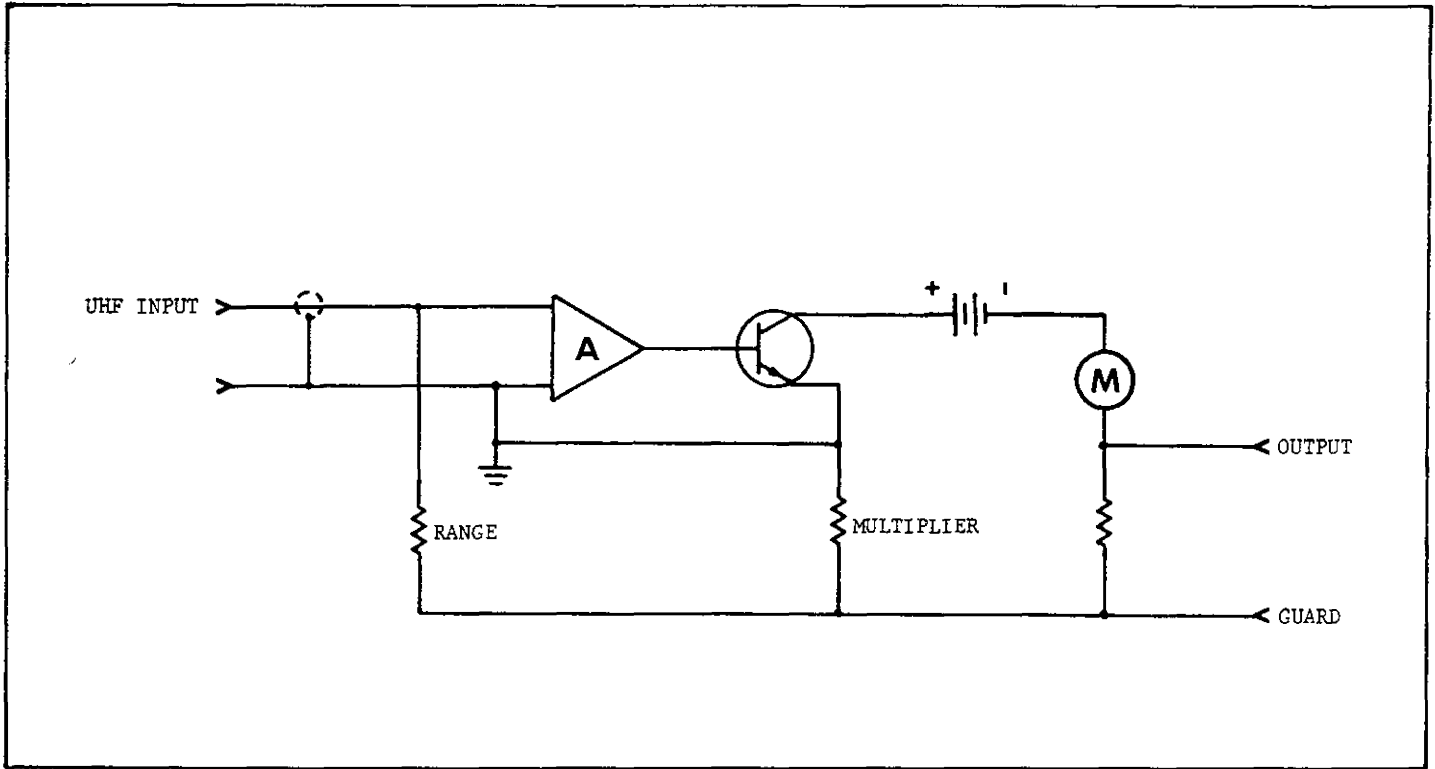

FIGURE 11. Ammeter Configuration, FAST Mode.
a. Normal Method. In the normal method of current measurements (FEEDBACK Switch in NORMAL position), one of the Range Switch resistors, R102 through R112, shunts the input. (See Figure 11). The Model 610C then measures the voltage drop across the resistor. The meter is calibrated to read the current in amperes for the appropriate range.
b. Fast Method. In the fast method of current measurements (FEEDBACK Switch in FAST position), the Model 610C functions as an ammeter with negative feedback. The differential amplifier output is divided by the Multiplier Switch resistors, R165 to R175, and fed back to the amplifier input through a feedback resistor selected with the Range Switch. (See Figure 11). Floating ground is connected to the low impedance side of the input, and the output ground is floating. This method increases the response speed by minimizing the effects of input capacity; it also reduces the input drop to less than 100 microvolts.
3-6. COULOMBMETER OPERATION. The Model 610C circuit for measuring charge is similar to that used for an ammeter with the fast method. A negative feedback is applied around a shunt capacitor, C108 to C111, selected with the Range Switch. The shunt capacitor replaces R_s in Figure 11. The stored charge is proportional to the voltage across the capacitor, which is measured by the Model 610C voltmeter circuits.